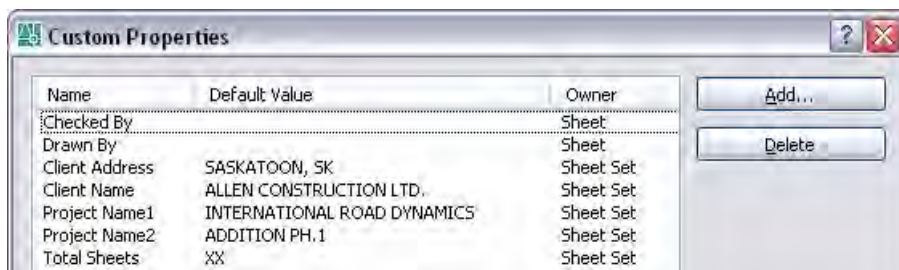

Figure 1.
- Choose Add to create the custom properties as indicated in Figure 1.